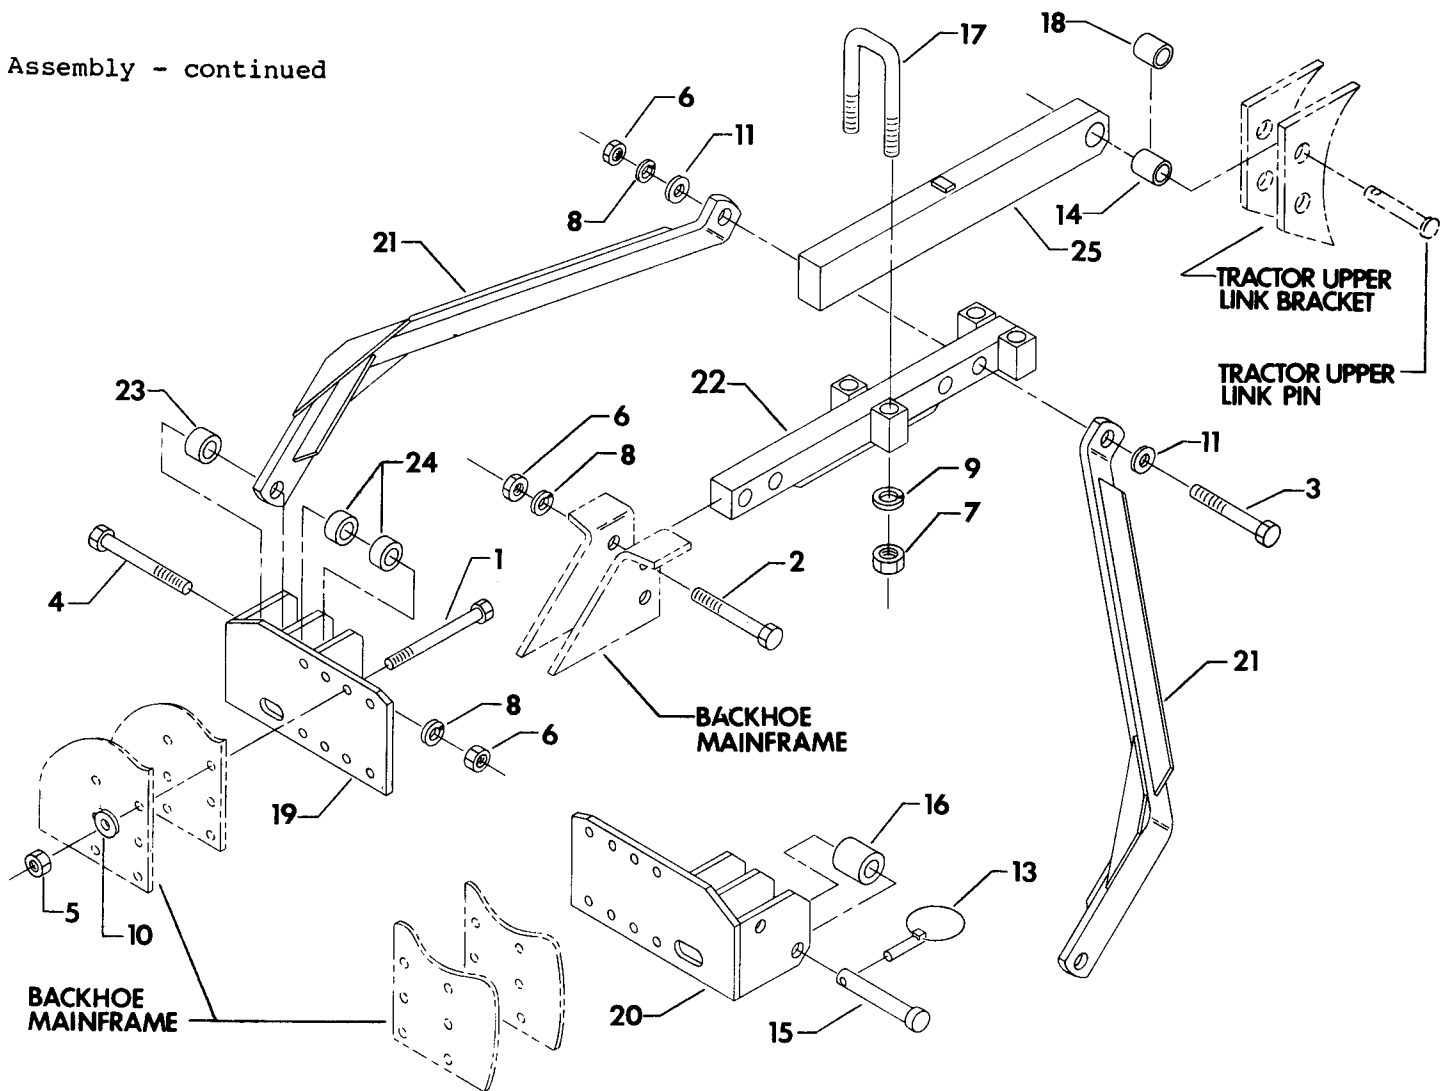

FIG 2
5. Assemble slide link (22) to upper link (25) using two U-bolts (17) and four nuts and lockwashers (7, 9) as shown in Fig 2 and 3. Do not tighten hardware at this time.
7. Position upper link assembly with slide link on top, as shown in Fig 4, and rest backhoe end between ears on mainframe. Loosely connect upper end of stabilizer bars (21) to upper link (22) using bolt, nut, lockwasher, and two flat washers (3, 6, 8, 11), as shown in Fig 2 and 3.
8. Using choices 1 thru 5 find the correct combination of holes so that the free end of upper link can be very nearly attached to tractor upper link bracket - with the backhoe mainframe in its present position (boom pivot pin approximately 17" off the ground). After determining the correct combination of holes, attach upper link to mainframe using bolt, nut, and lockwasher (2, 6, 8), as shown in Fig 2.
9. Install bushing (14) or bushing (18) in the hole of slide link (25) that most closely matches the diameter of the tractor upper link pin, as shown in Fig 2. No bushing is necessary for Category II tractors.